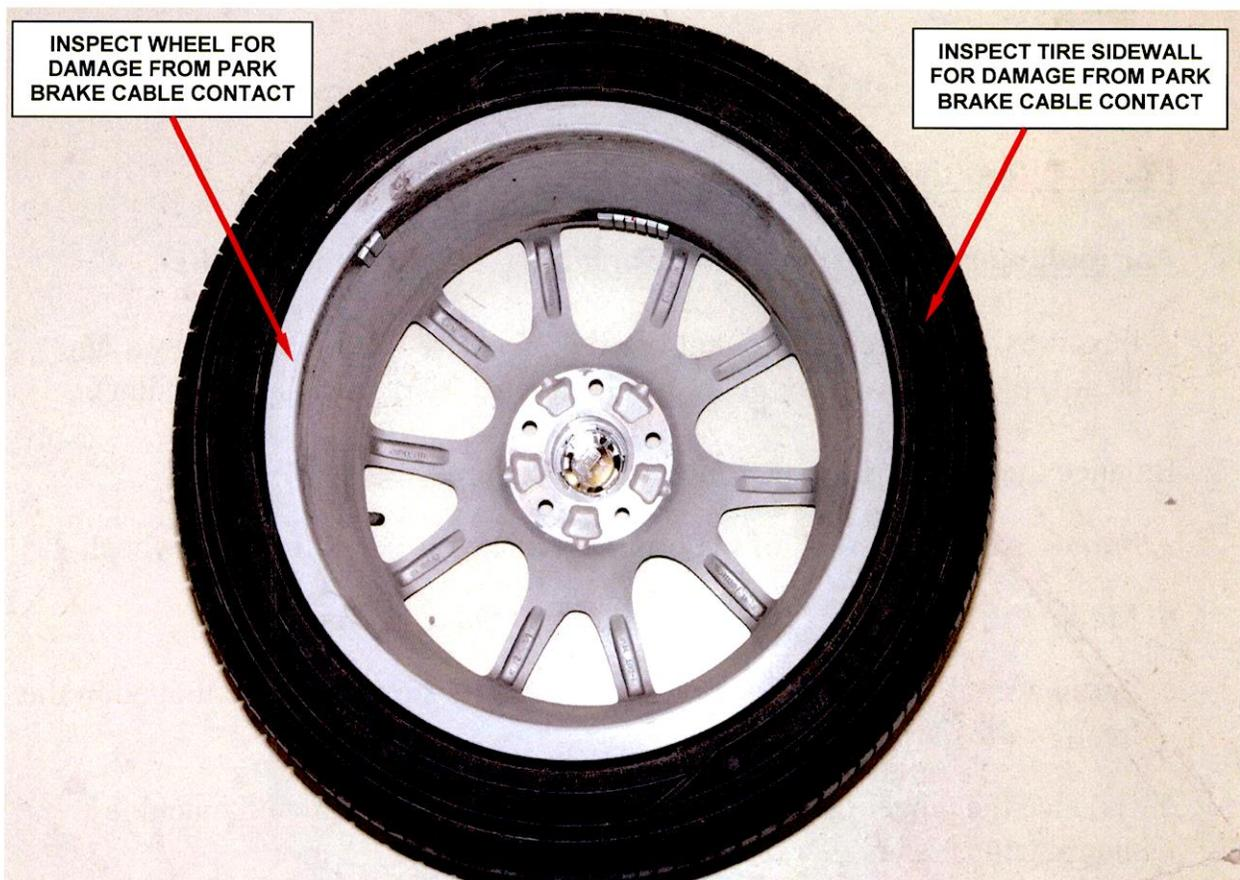

Figure 3 – Inspect the Wheel and Tire Sidewall for Damage
2. Inspect the inner sidewall of the tire and wheel for damage from rubbing against the park brake cable (Figure 3):